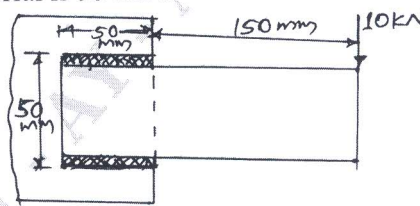

Fig.Q7(b)
- b. Determine the size of weld for a welded joint loaded as shown in Fig.Q7(b). The permissible shear stress for the weld material is 95 MPa.